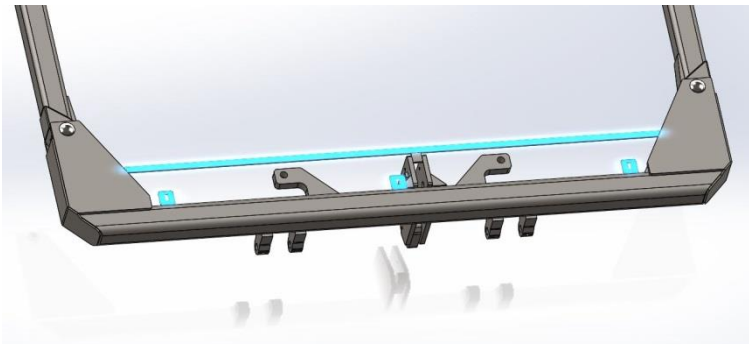

Figure 1.
2. Remove the three (3) coversheet brackets and the flat iron as shown in blue, Figure 1.